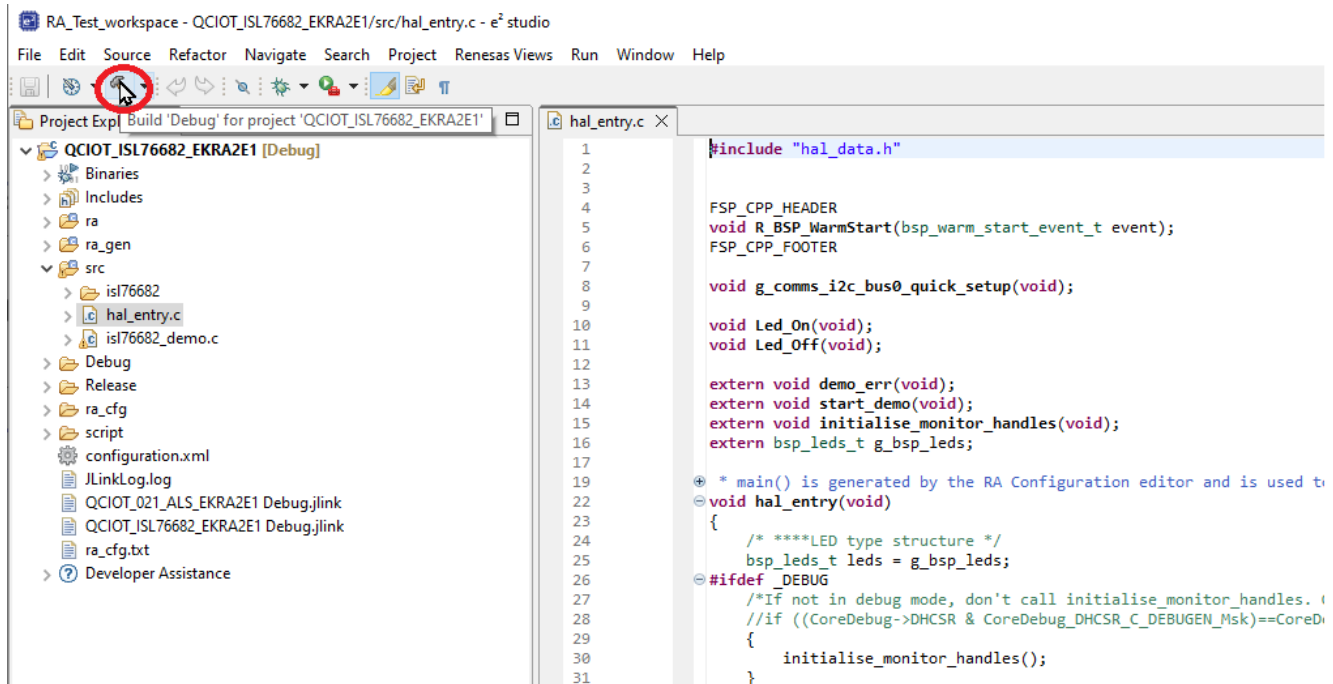

Figure 16. Build the Sample Project
8. After successfully importing the project, build it by clicking on the *Hammer* icon button (see Figure 16).